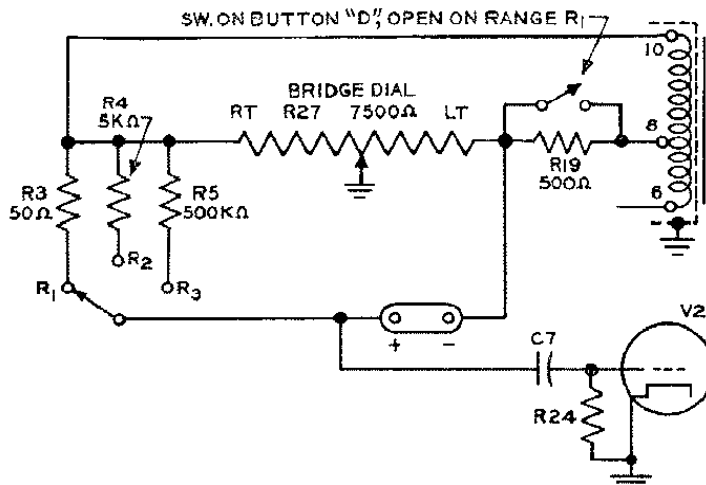

FIGURE 6
5.1 The basic circuit for the three range line-frequency bridge is shown in Figure 6.